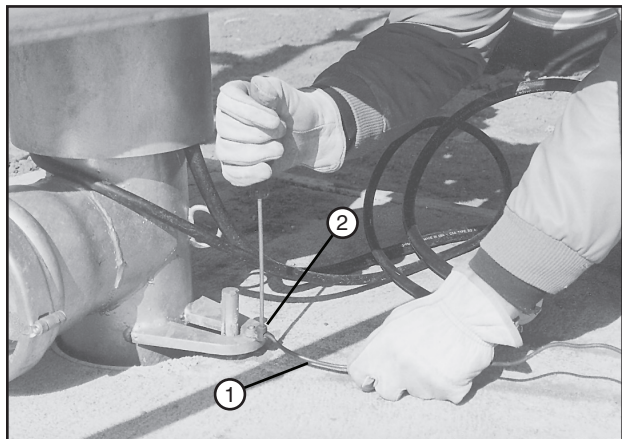

Figure 50-3 1. Ground Wire
7. Disconnect the ground wire from the ground lug on the lower riser ear. After removing ground wire, retighten the grounding lug screw so it is not lost while towing. See Figure 50-3.